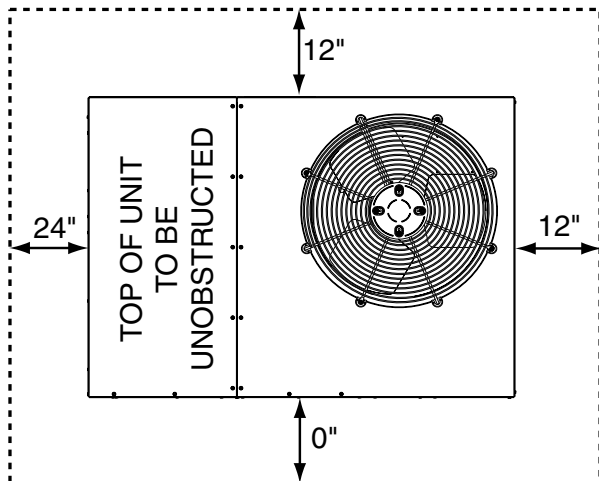

Figure 1. Minimum Unit Clearances
- Sufficient clearance for unobstructed airflow through the outdoor coil must be maintained in order to achieve rated performance. See Figure 1 for minimum clearances to obstructions.
Minimum clearances MUST be maintained from adjacent structures to provide room for proper servicing and air circulation. DO NOT install unit in a confined or recessed area that will allow discharge air from the unit to re-circulate into the condenser air inlet, through the coil. See Figure 1 \(page 4\).